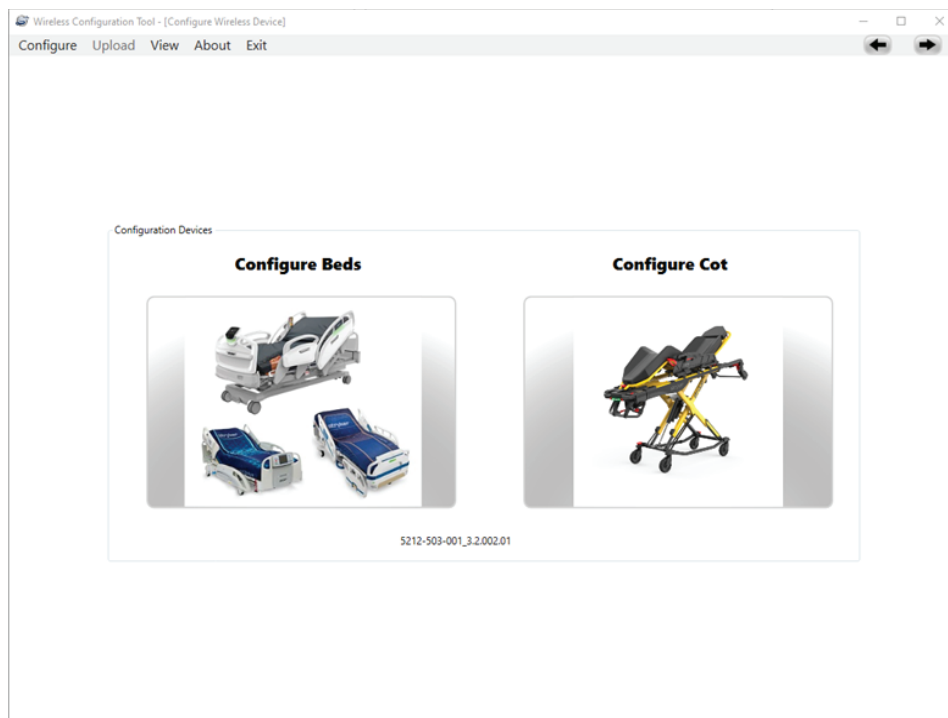

Figure 120 –
3. Open the Stryker Wireless Configuration Tool (Figure 120).